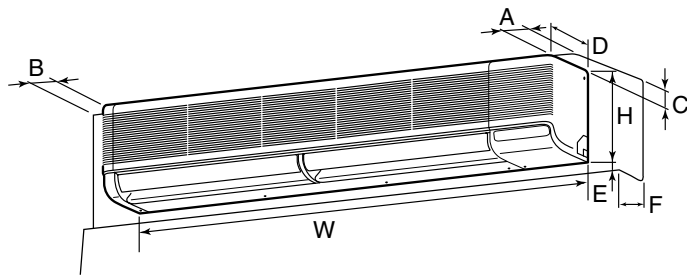

Fig. 2-1
①	Wall-fixing bracket	1	Fix at the back of the unit
②	Tapping screw 4 × 35	12	Set inside the unit
③	Insulation material	2
④	Band	4 (large) + 3 (small)
⑤	Felt tape	3
⑥	Drain socket	1
⑦	Wireless remote controller	1
⑧	Remote controller holder	1
⑨	Alkali batteries	2
⑩	Flare nut	P100 1 (ø19.05)
2.1. Outline dimensions (Indoor unit) (Fig. 2-1)